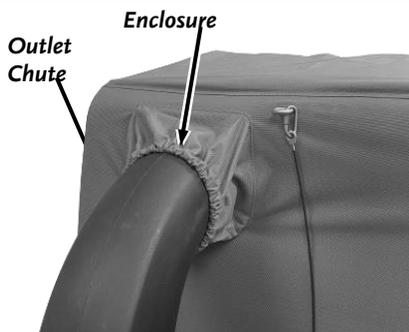

Figure 85
- Pull the Enclosure Sleeve around the Outlet Chute (*Figure 85*).